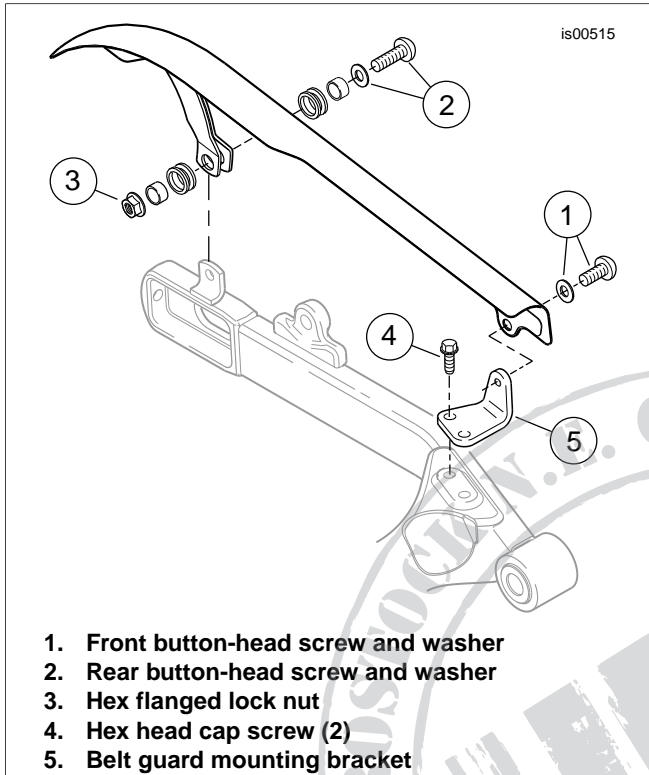

Figure 3. Upper Belt Guard Removal
5. See Figure 3. Remove and retain the front (1) and rear (2, 3) upper belt guard fasteners, and carefully remove the upper belt guard from the vehicle.